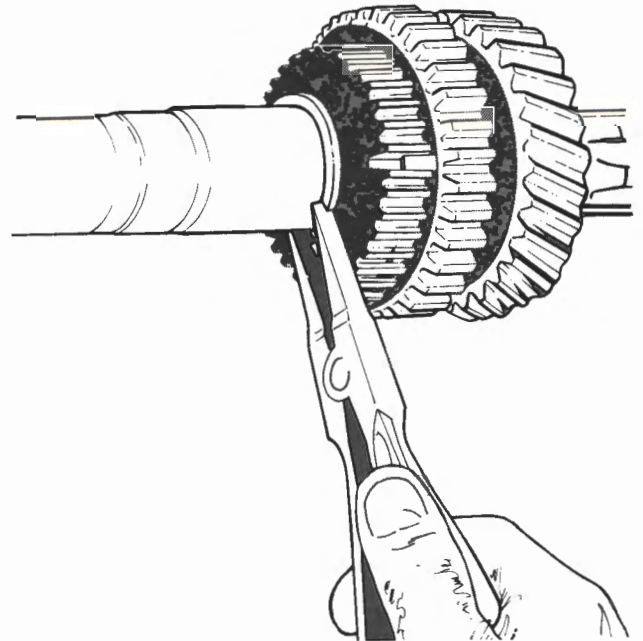

Fig. L-15
- 25 Remove the first speed synchroniser and reverse gear assembly snap ring from the mainshaft. Remove the synchroniser gear assembly and first gear baulk ring from the mainshaft. Fig. L-15.